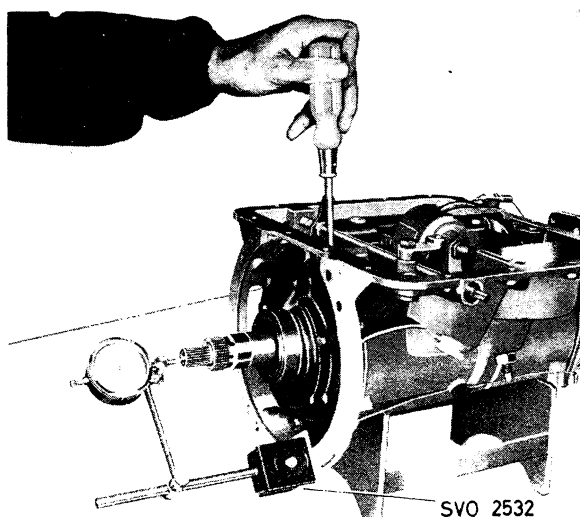

Fig. 4-78. Checking end float
21. Set up the dial indicator gauge as shown in Fig. 4-78 with plate SVO 2532 and magnetic attachment. Place the point of the gauge against the shaft end, move the shafts and gears backwards and forwards and read off the end-float. This should be 0.25—0.75 mm (0.010—0.030"). Note the amount of play.